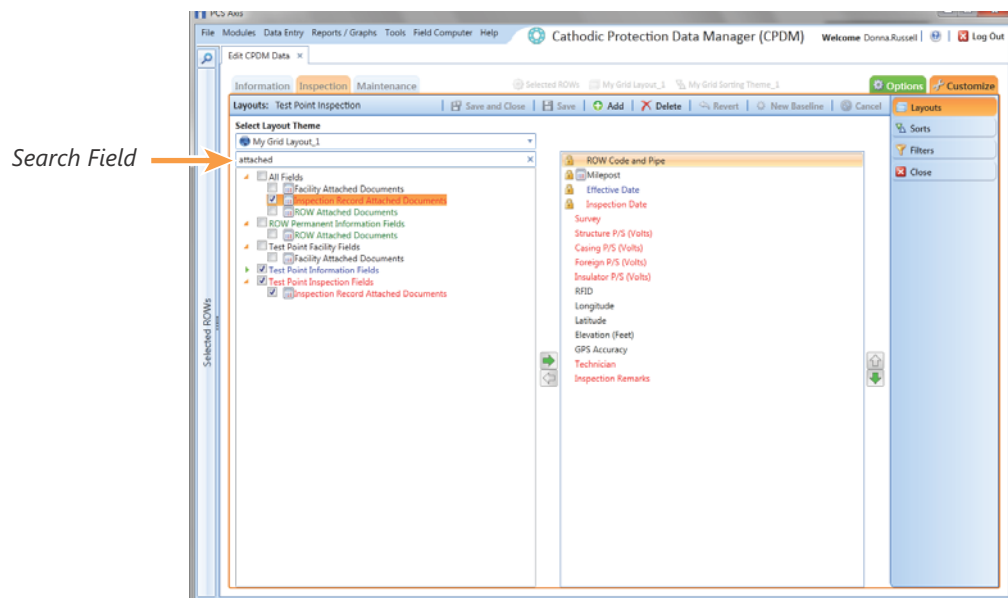

Figure 6-81. Layouts
- a Click the check box for the field **Inspection Record Attached Document** in the left pane of the window (Figure 6-81, page 255).